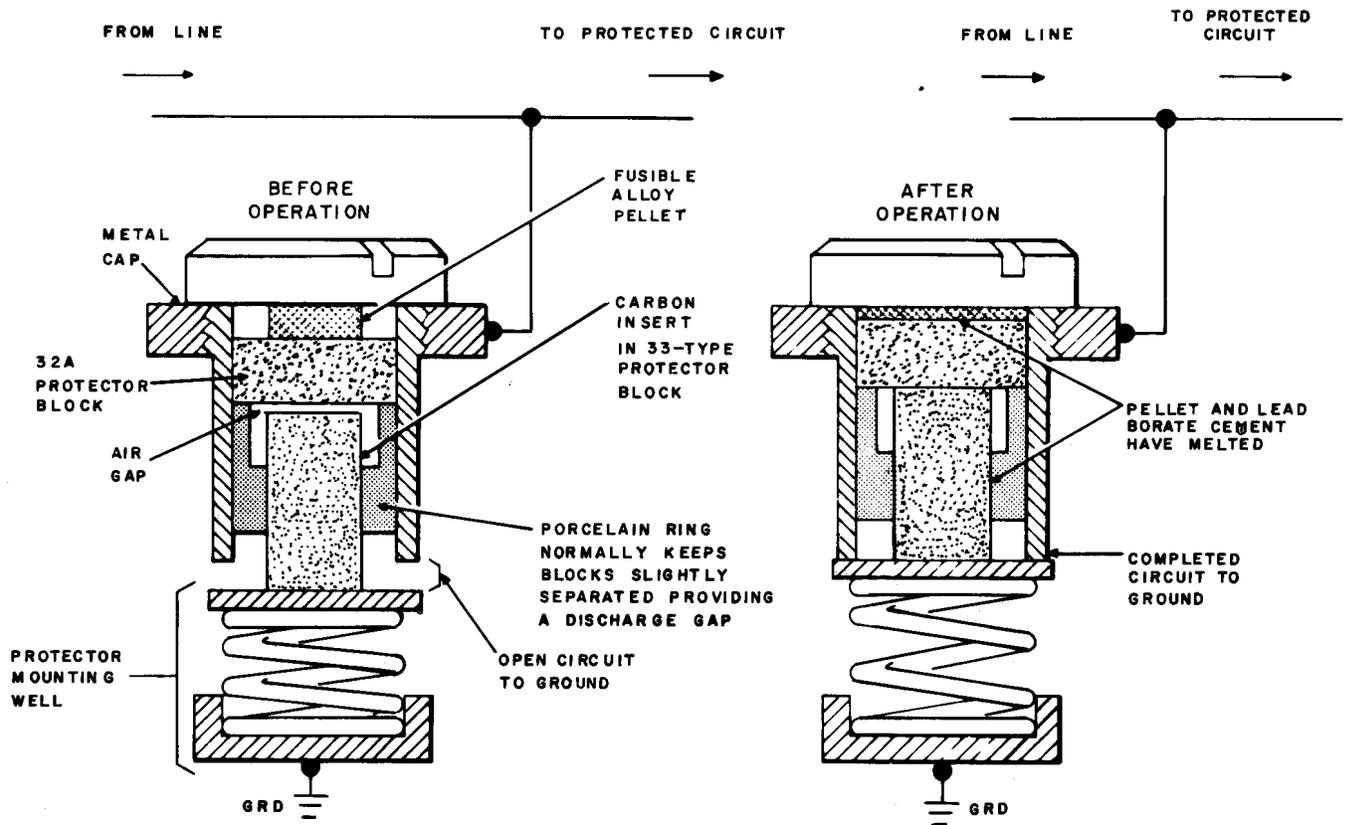

Fig. 10—2A-Type Protector Unit Operating Sequence
3.03 The operating sequence of the 2A-type protector unit is shown in Fig. 10.